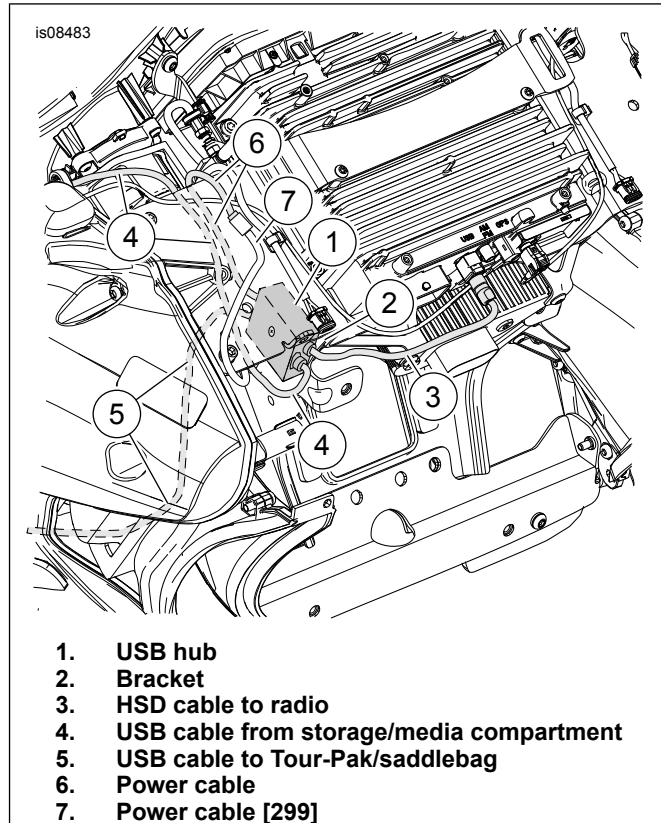

Figure 4. USB Hub Installation and Cable Location
2. See Figure 4. Install USB cable (4) from media/storage and connect to USB hub (1) as shown.
3. Install HSD cable (3) to radio.
4. Install power cable (6) to power cable (7) [299].
5. Route USB cable (5) to rear of motorcycle.